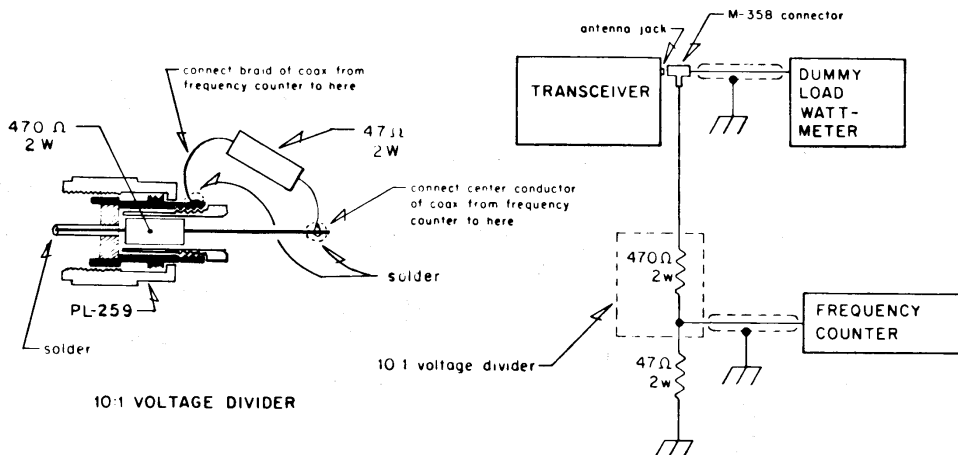

Figure 3-3. Connection of Frequency Counter and Dummy Load
2. Connect a dummy load and frequency counter to the antenna jack as shown in Figure 3-3.